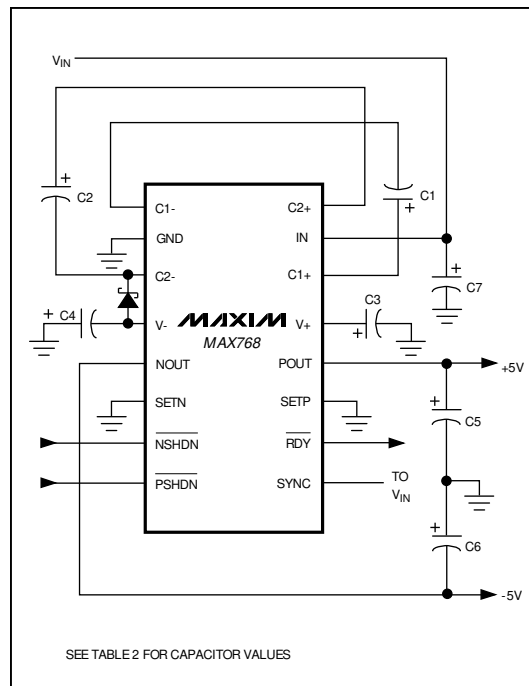
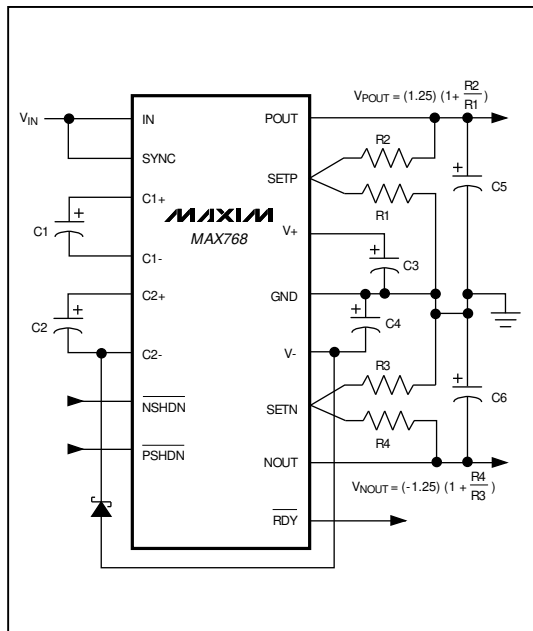

Figure 2. MAX768 Standard Application Circuit
Figure 3. MAX768 Adjustable Configuration
Connect SETP or SETN directly to GND to select a fixed +5V or -5V output voltage, respectively (Figure 2). Select an alternative voltage for either output by connecting SETP or SETN to the midpoint of a resistor voltage divider from POUT or NOUT, respectively, to GND (Figure 3). ( $2 \times V_{IN}$ ) must be 1.0V above the absolute value of the output voltage to ensure proper regulation. Calculate the output voltage from the formulas below. Choose R1 and R3 at between 100kΩ to 400kΩ.
**Table 2. Charge-Pump Capacitor Selection (Figure 2)**